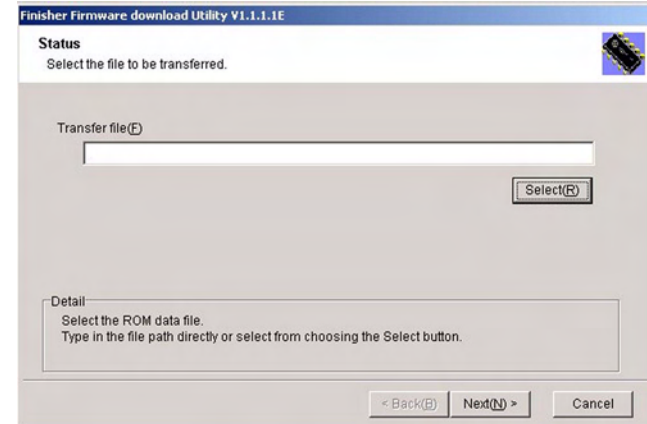

Figure 4 Software Transfer window
- b. When machine is ready, select the Finisher Firmware tool on the PWS (the Software Transfer window will launch) (Figure 4).